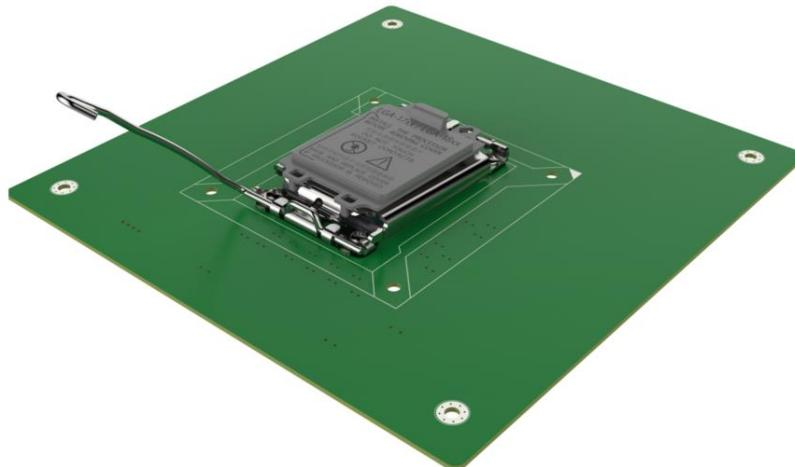

Figure 4-4: Close The Load Plate
Step 8: Close the CPU socket. Close the load plate, the CPU cover will be popped out naturally. See **Figure 4-4**